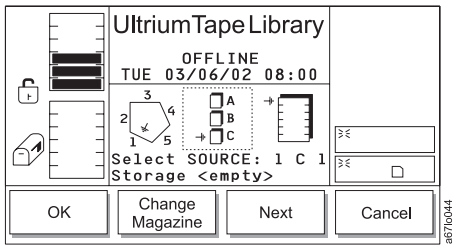

Figure 4-143. Change Magazine Dialog
- a. Press the button below the **Change Column** softkey until the arrow in the left icon points to the column that you want. Press the button below the **Next** softkey. The Change Magazine Dialog displays (see Figure 4-143 on page 4-86).